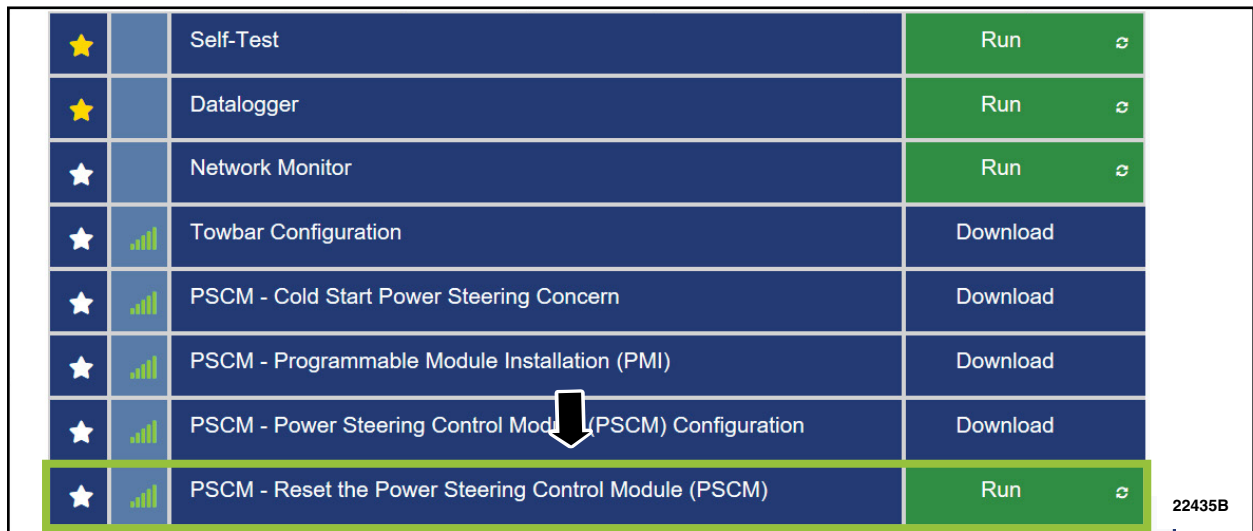

FIGURE 2
6. From the list on the RH side of the screen, select PSCM - Reset the Power Steering Control Module (PSCM). See Figure 2.